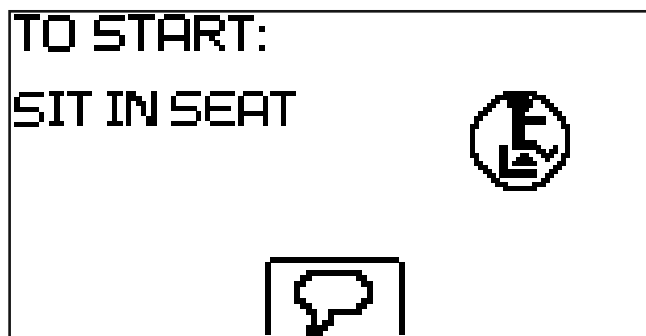

Figure 5-2
2. Sit in the rider seat. See Figure 5-2.